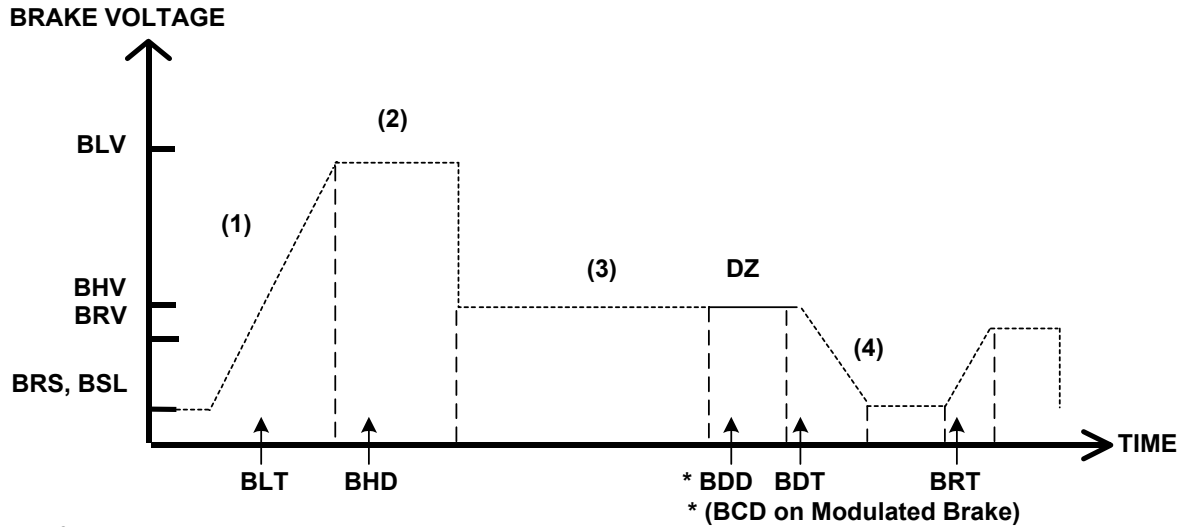

Figure 7-3
Note: *See Figure 7-3 on following page for acronyms.*
5. Manually pick the brake slightly to allow the elevator to sag below the floor. Adjust the parameters BRT, BRV and RVE to allow the elevator to re-level into the floor without dropping further. See Figure 7-3 for full brake parameter details.